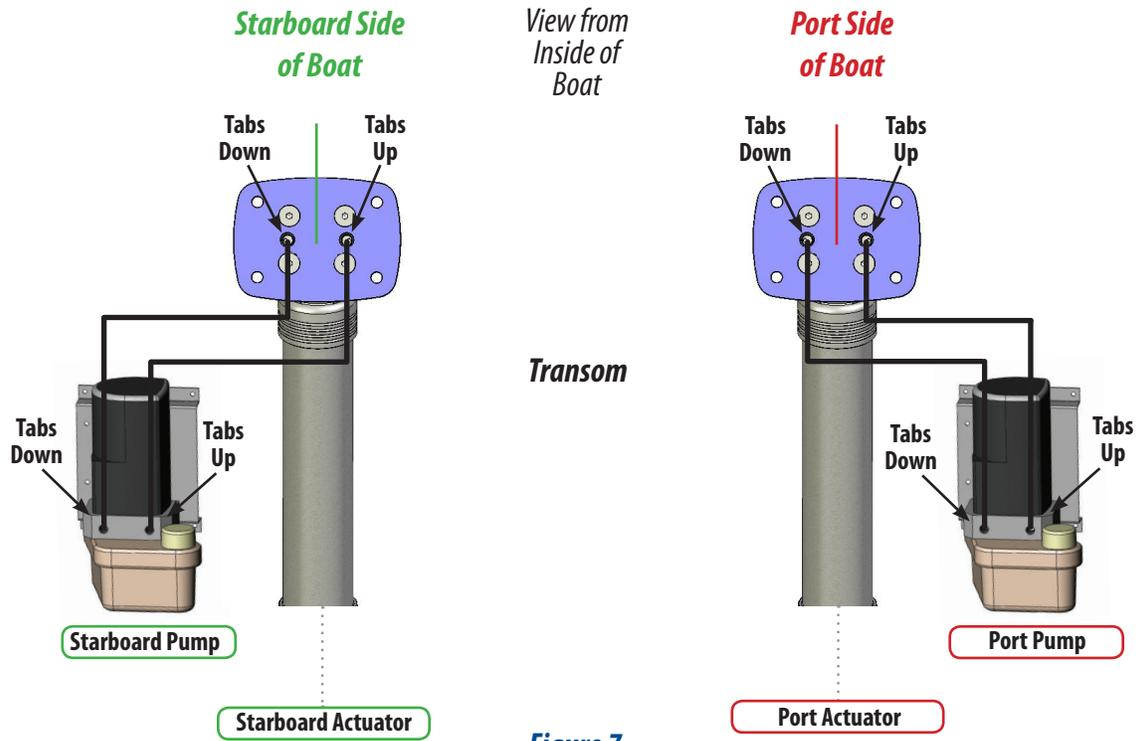

Figure 7
**Single Actuator System:** Run hydraulic tubing between the actuators and cut to length. Secure tubing as needed. (See next page, Figure 7 for Single Actuator Systems.) **Dual Actuator Systems:** Run tubing from the Pumps to the desired Brass Line-T location as shown. Secure as required. (See Figure 8 for Dual Actuator Systems.) Use tube bending clips at desired 90° bends in tubing to prevent kinking.